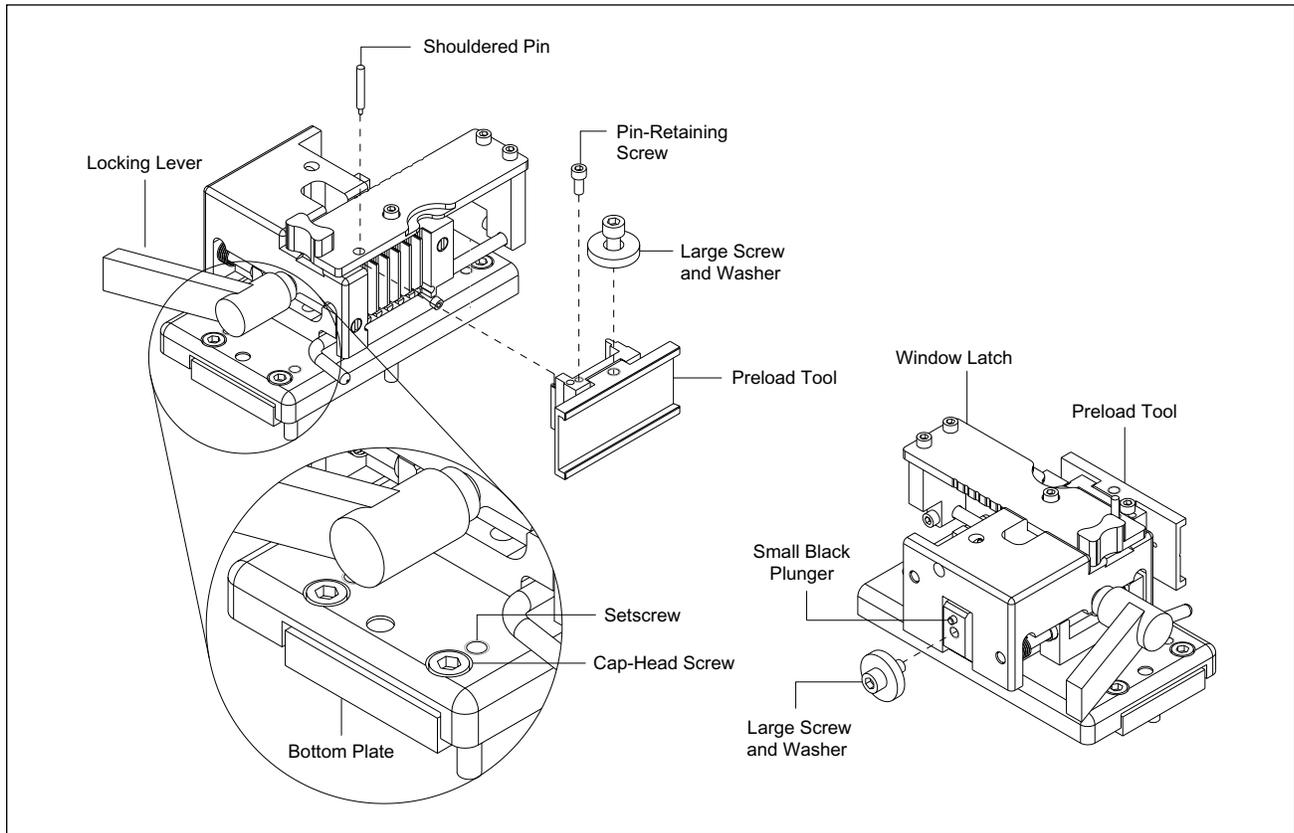

Figure 8-7. Capillary Clamp Assembly.
Refer to figure 8-7 for this procedure. The capillary clamp is attached to the corners of the bottom plate with four cap screws. The window height is adjusted by controlling the spacing between the bottom plate and the capillary clamp. This distance is controlled by setscrews positioned next to the four cap screws. The adjustment is made by loosening the cap screws slightly and adjusting the four setscrews up or down. The spacing between the bottom plate and the capillary clamp is set at the factory to approximately 0.060 inch. One complete turn of the setscrews will move the window height approximately 0.030 inch.
1. Remove the large screw and washer from the top of the preload tool (figure 8-7) and install the tool on the left side of the capillary clamp assembly. Tighten the screw until the small black plunger is flush with the surface.